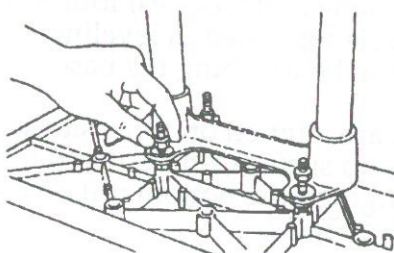

Fig.2
4. Re-install a washer and nut for each stud. Do not tighten the nuts on the extension table base yet, and leave about 1" between the two nuts on each stud. See Fig.2.